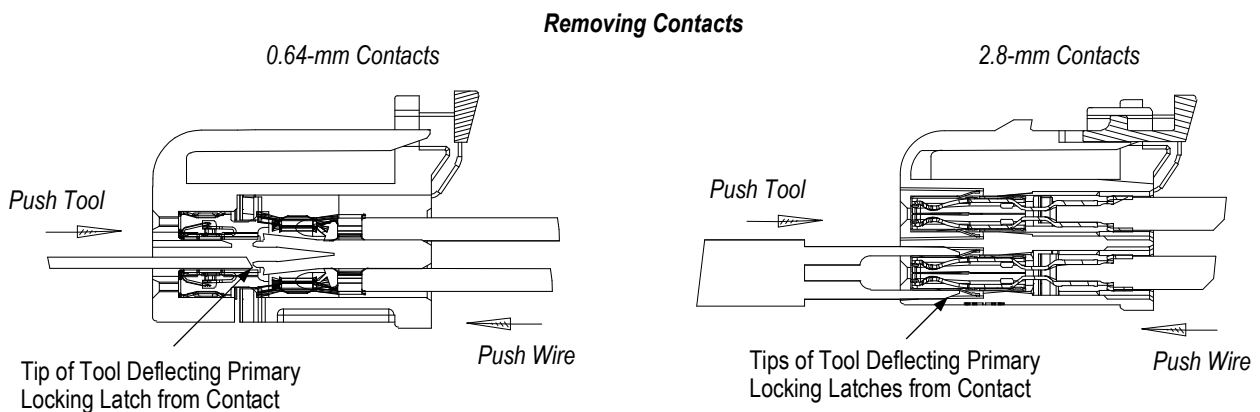

Figure 8
- Holding the extraction tool in place, grasp the wire of the contact to be removed, and push it toward the contact cavity until it stops. This should deflect the primary locking latch(es) from the locking features of the contact. See Figure 8.